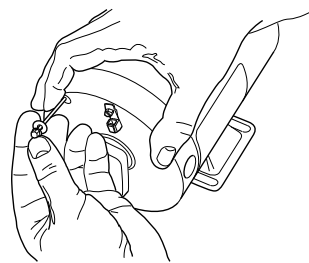
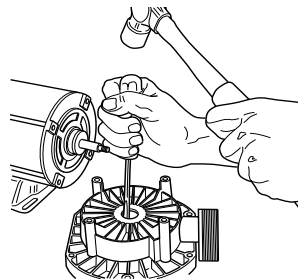

Figure 15
Figure 16
9. Remove motor throughbolts (see Figure 15). Remove seal plate (Key No. 9). Tap stationary half of seal out of seal plate (see Figure 16).